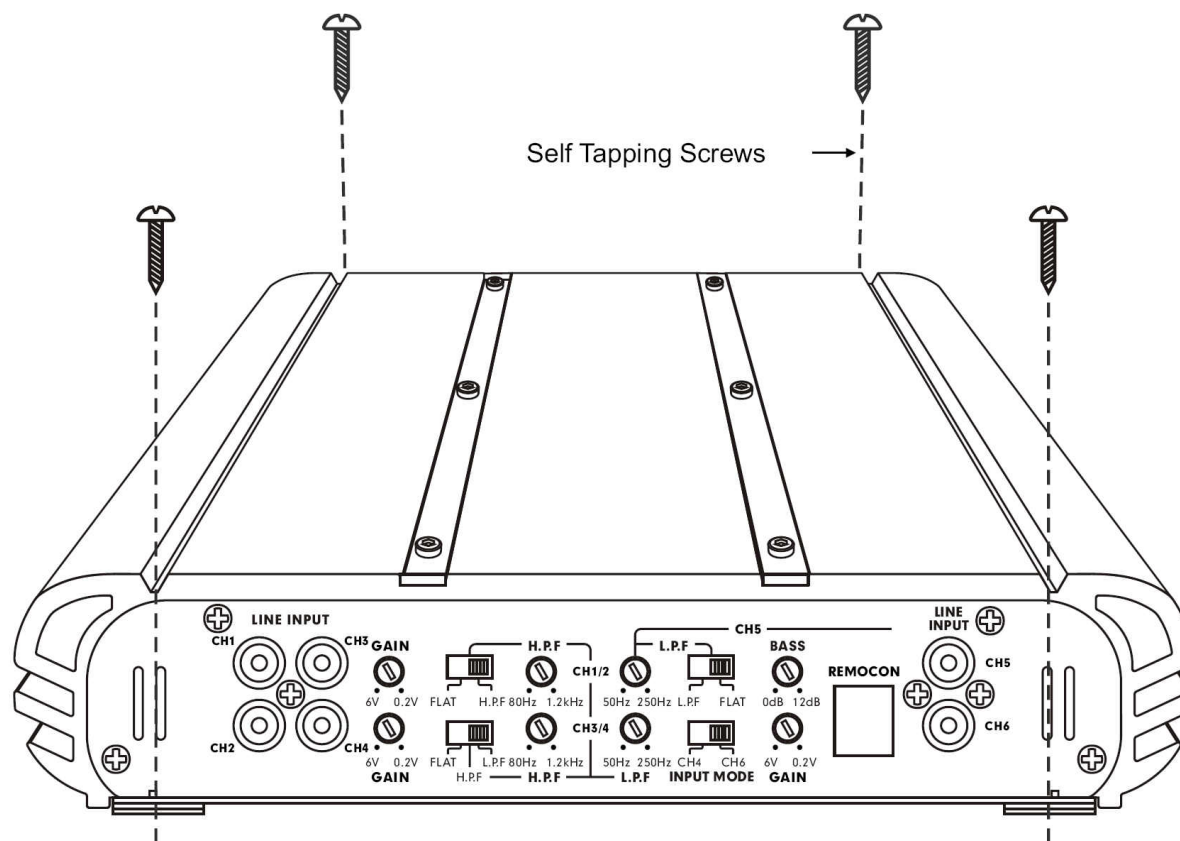

Fig. 1.
1. After reading precaution, decide where you are going to install the unit. Also, see Fig.1.